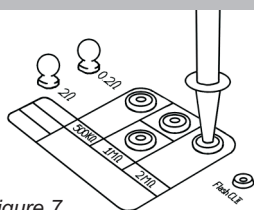
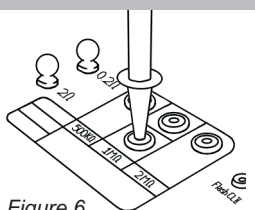
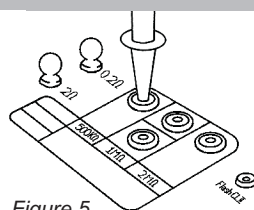

Figure 7
Figure 6
Figure 5
- 7) **Touch Current Test** Disconnect the black link which is used to select the PE current test value. Connect the PAT Touch current probe to one of the 3 red test terminals (see Figure 5, Figure 6 and Figure 7). The value selected is referenced to a table printed in the lid of the PowerCheck 1557. The PAT tester will indicate the test measurement taken.